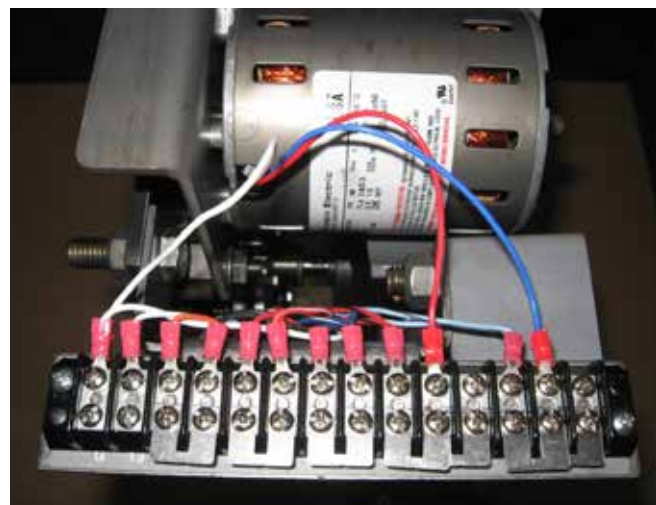

Figure 20. Wiring connections.
- The motor wire connection points are as follows: the white wire connects to terminal "G"; the red wire connects to terminal #5 and the blue wire connects to terminal #2. Trim the motor wires with a diagonal cutter allowing an extra two inches of wire between the motor and the connection points. Strip 1/4" of wire insulation from the end of each wire. Crimp a supplied ring tongue connector to the end of each wire, making sure the wire is fully inserted into the ring tongue connector. The wire should not stick out of the connector by more than 1/16 (1.5 mm) of an inch. Attach the ring tongues to the motor connection points on the terminal board as described above. Refer to Figure 20.